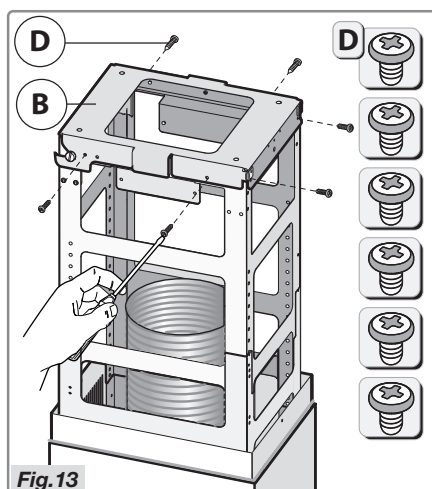

Fig. 13
- **Please note!** Secure the hood directly onto the bracket **B** with the 6 screws **D** (Fig. 13).